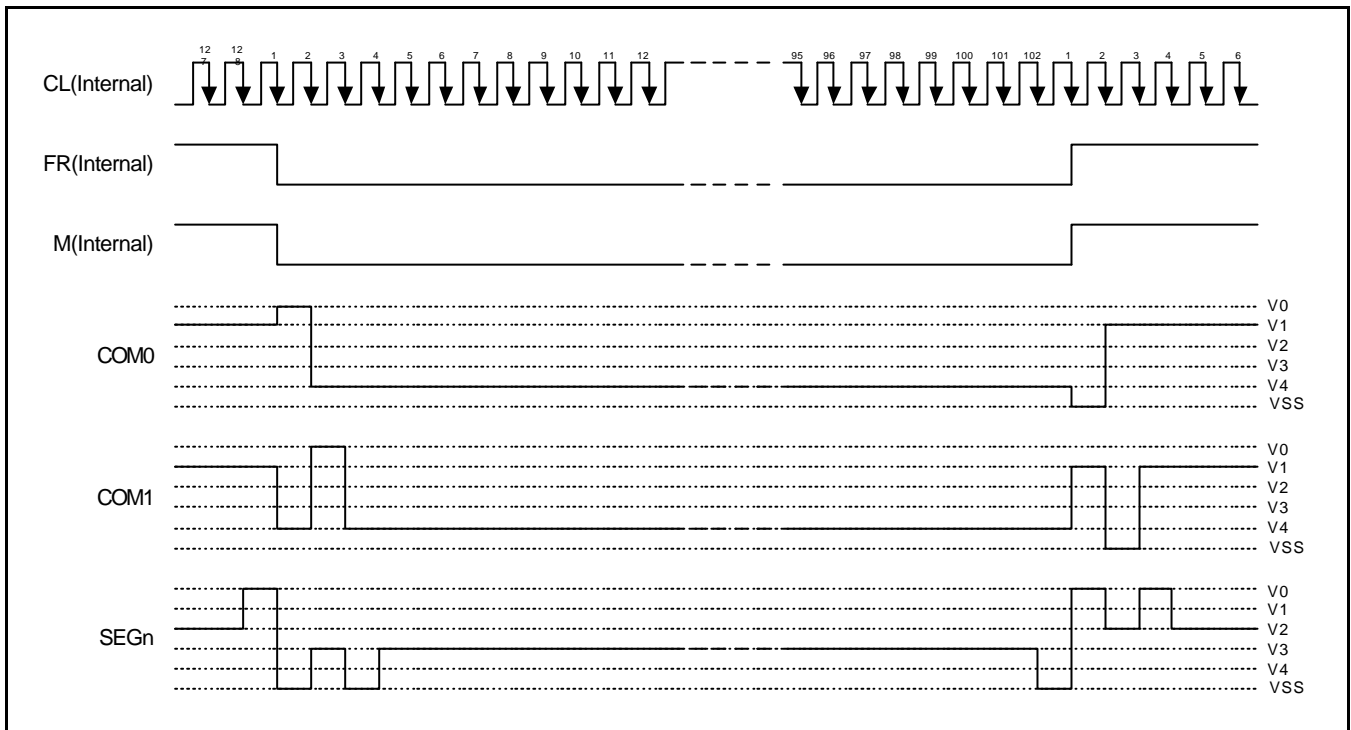

Figure 9. 2-frame AC Driving Waveform (Duty Ratio = 1/102)
This circuit generates some signals to be used for displaying LCD. The display clock, CL(internal), generated by oscillation clock, generates the clock for the line counter and the signal for the display data latch. The line address of on-chip RAM is generated in synchronization with the display clock and the display data latch circuit latches the 102-bit display data in synchronization with the display clock. The display data, which is read to the LCD driver, is completely independent of the access to the display data RAM from the microprocessor. The display clock generates an LCD AC signal (M) which enables the LCD driver to make a AC drive waveform, and also generates an internal common timing signal and start signal to the common driver. The frame signal or the line signal changes the M by setting internal instruction. Driving waveform and internal timing signal are shown in Figure 9.